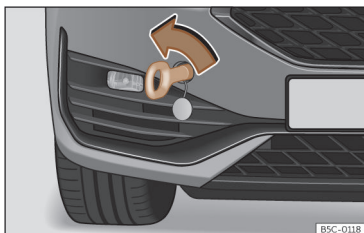

Fig. 49 Right side of the front bumper: towline anchorage in position.
- Screw the towing eye in the housing by turning it as far as it will go **anticlockwise**»» **Fig. 49** »» **!** Use a suitable object that can completely and securely tighten the towing eye in its housing.